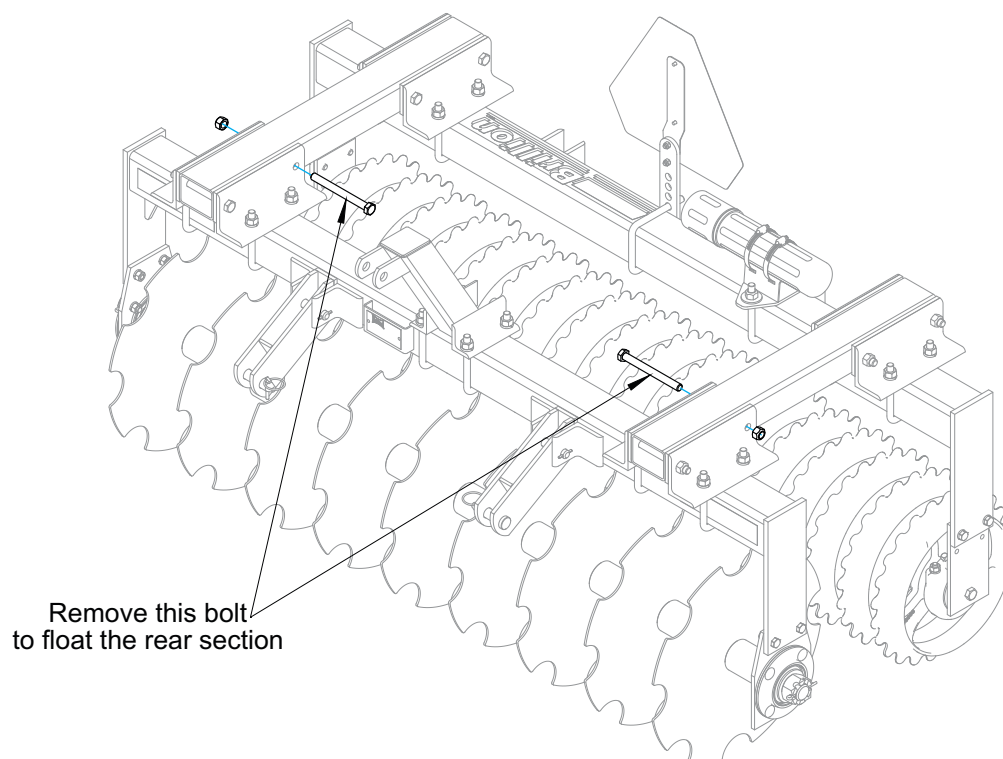

Figure 1-6: Floating Rear Roller
To move the lower hitch mounting brackets loosen the 5/8-11 U-Bolts, Lock Washers and Nuts. Position the brackets as shown in **Figure 1-6**. Re-tighten hardware. See **“General Torque Specifications” on page 2-1**.
The Mulch-Tucker can be reversed so that the Notched Roller Assembly is in the front and the Coulter Assembly is in the rear. This can be achieved by reversing the hitch or reversing the Coulter and Roller Assemblies. See Figures 1-6, 1-7 and 1-8.
3. Relocate the bolt that will allow the rear Coulter Assembly to float. The Rear Front Bolt from each Tube that connects the Front and Rear Frames should be removed. (This is needed only if rear section is to float.) See Figure 1-6.
6. Relocate the bolt that will allow the rear Coulter Assembly to float. The Rear Front Bolt from each Tube that connects the Front and Rear Frames should be removed. (This is needed only if rear section is to float.) **See Figure 1-6.**